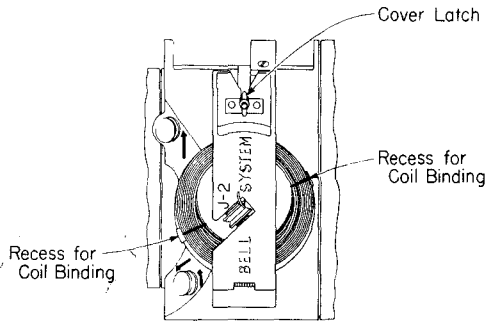

Fig. 1—Placing Wire Coil in J Cable Lasher
(1) Loosen the wing nut on the cover latch and open the latch. The cover will open automatically.
(2) Place a coil in the magazine. The face of the coil should be toward the open side of the magazine. Position the coil with the two coil bindings in the recesses. Feed the loose end (inside end) of the wire from the center of the coil through the throat in the cover. This is illustrated in Fig. 1.